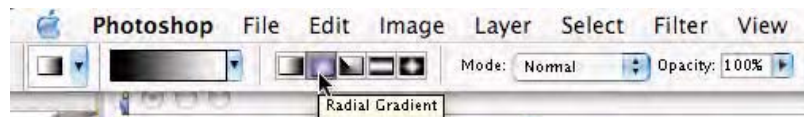

Fig. 9-12-13 Click the **Radial** gradient icon as seen here.
10. Select the **Radial gradient** in the option bar (second from the left, seen in Fig. 9-12-13).